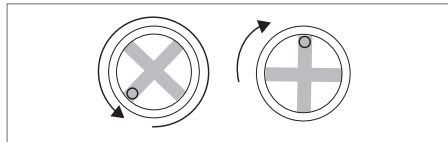

Figure 7.1: Medium potentiometer setting
1. Power down the sensor and set Switch 6 to OFF. Switches 1, 2, 3, 4, are OFF. Switch 5 is ON (default). The potentiometer setting is medium level. To set to medium level, turn the potentiometer down (counter-clockwise) as far as possible. Then, turn half way up (clockwise) until the slot is pointed up in the center position. Refer to Figure 7.1 below.